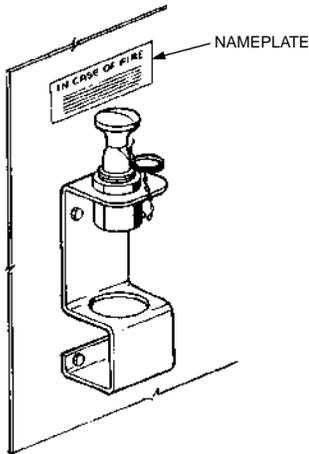

FIGURE 8
4. Affix the appropriate operating nameplate adjacent to the manual actuator so that it is visible to attending personnel. See Figure 8.